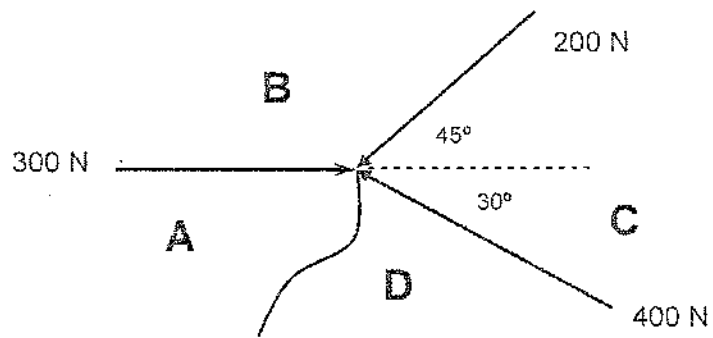

FIGURE 4 / FIGUUR 4
- 9.2 FIGURE 4, ADDENDUM A (attached), shows four forces acting on a pin.